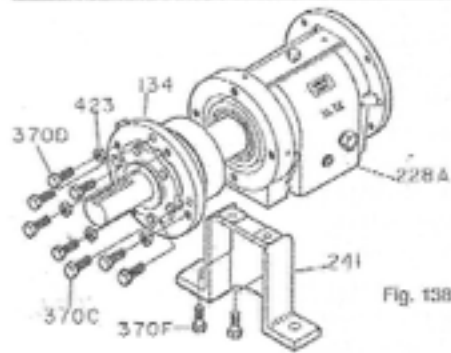

Fig. 138
11. Coat outside of bearing housing (134) with Vaseline with-oil.
13. Install shaft assembly into frame (228AJ). Check for free turning (Fig. 138).
14. Install clamping bolts (370C) into bearing housing (134). Hand tighten.
15. Install jacking bolts (370D) with locking nuts (423) into housing (134). Hand tighten.
16. Attach bearing frame foot (241) with bolts (370F). Hand tighten.